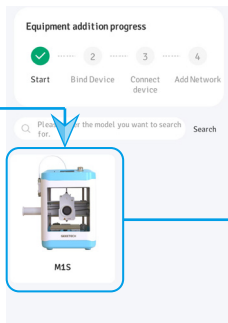
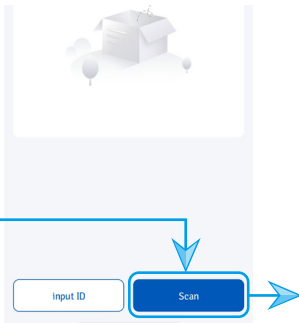

Figure 21
Figure 22
04. Select the M1S model, as shown in Figure 21. The app will navigate to the page shown in Figure 22.